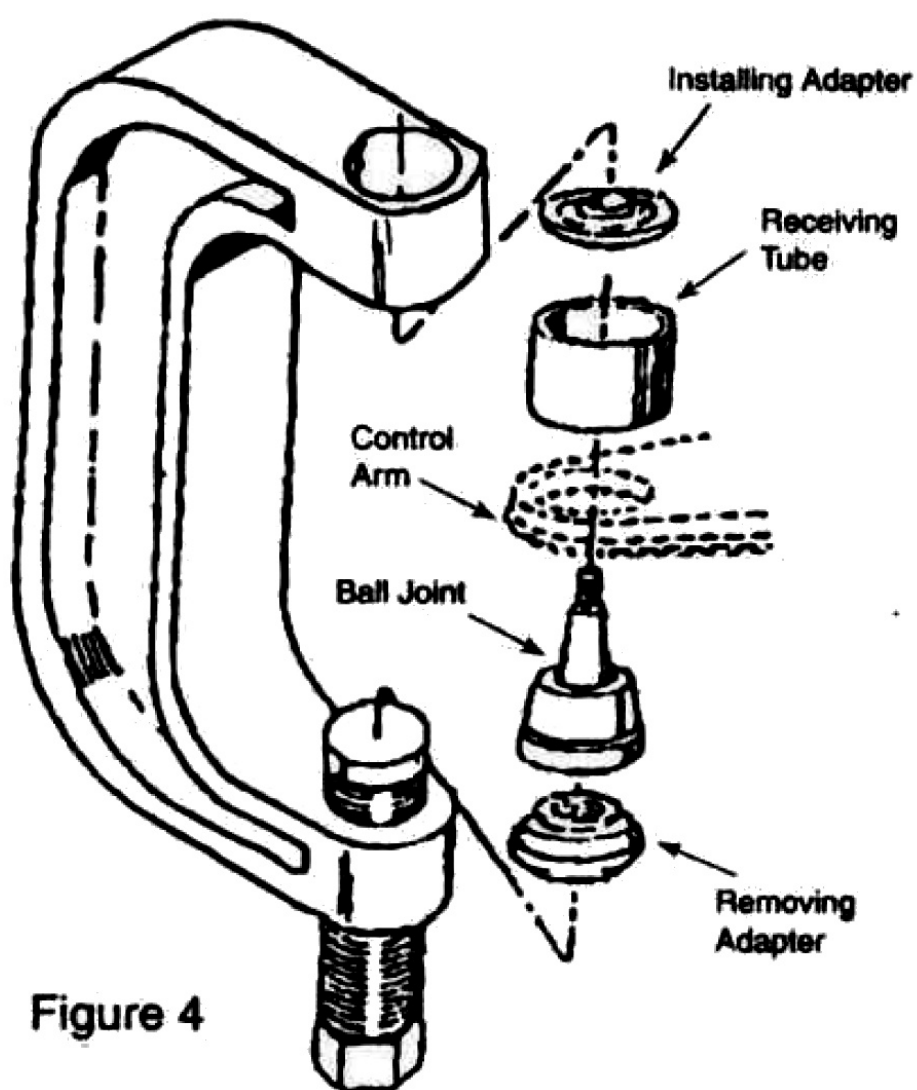

Figure 4
3. Assemble the ball joint retainer as shown in Figure 4. Position the pickup tube and tighten the retainer screw. Check the alignment of all tools and components, then continue to tighten the set screw until the ball joint is firmly seated.